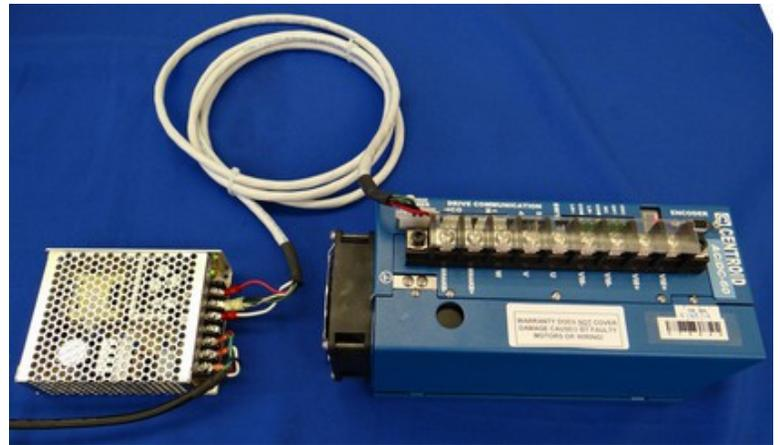

Figure 2.2.2
2. Plug the connector on the other end of the power cable to the "Logic Power" input of the AC/DC as shown in figure 2.2.2.